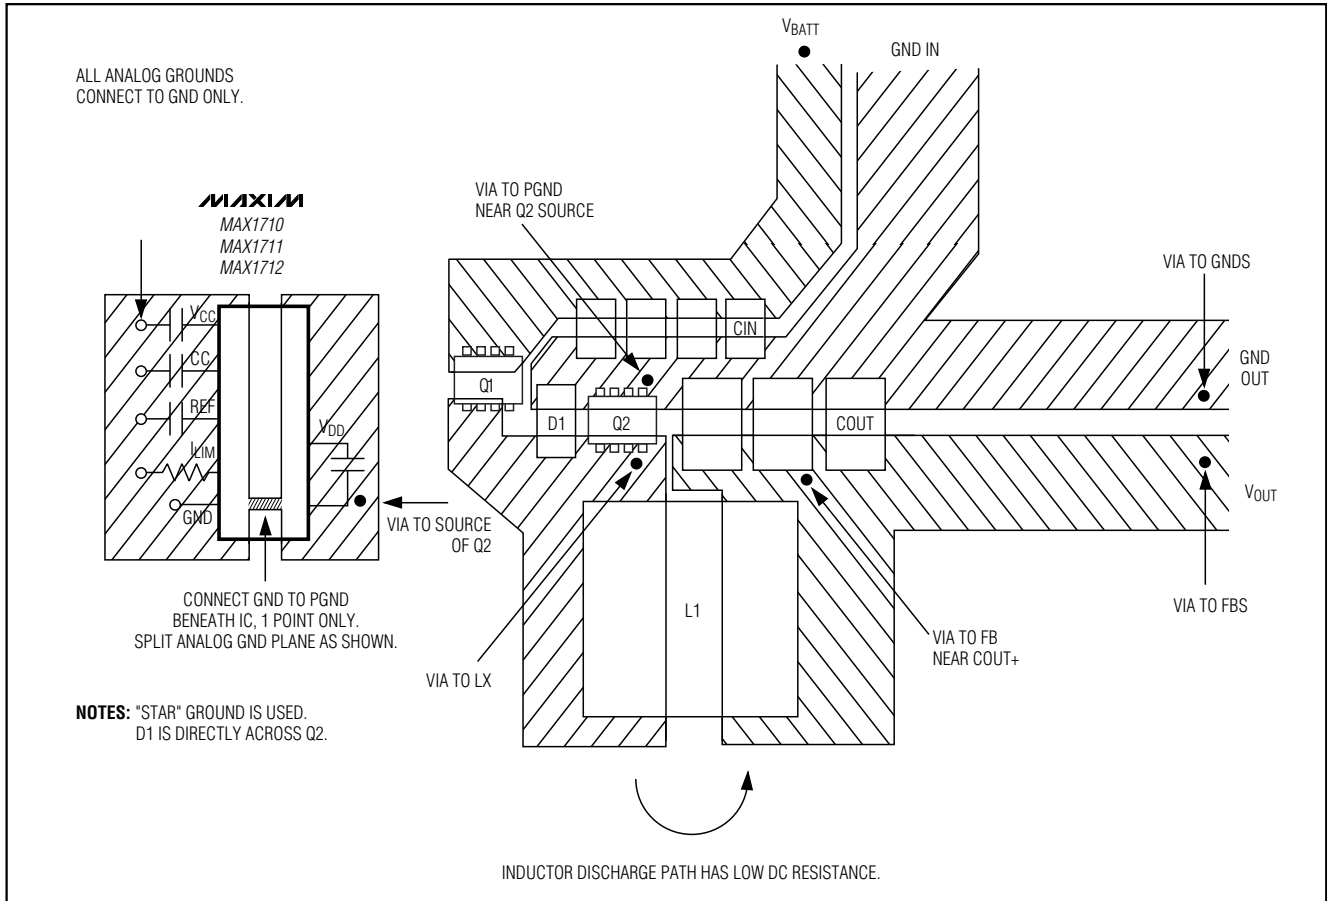

Figure 11. Power-Stage PC Board Layout Example
Careful PC board layout is critical to achieving low switching losses and clean, stable operation. The switching power stage requires particular attention (Figure 11). If possible, mount all of the power components on the top side of the board with their ground terminals flush against one another. Follow these guidelines for good PC board layout:
- 4) Make the DC-DC controller ground connections as shown in Figure 11. This diagram can be viewed as having three separate ground planes: output ground, where all the high-power components go; the PGND plane, where the PGND pin and VDD bypass capacitor go; and an analog GND plane, where sensitive analog components go. The analog ground plane and PGND plane must meet only at a single point directly beneath the IC. These two planes are then connected to the high-power output ground with a short connection from VDD cap/PGND to the source of the low-side MOSFET, Q2 (the middle of the star ground). This point must also be very close to the output capacitor ground terminal.